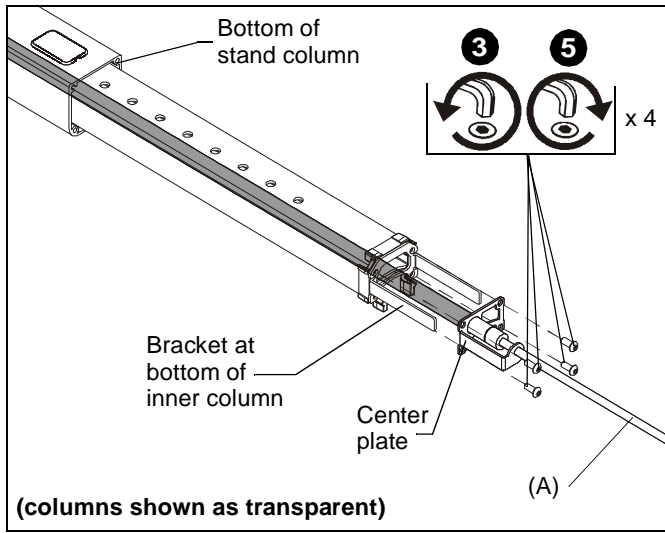

Figure 9
- Remove four button head screws from bracket at end of inner column. (See Figure 9)
- With gas spring assembly (A) inside the inner column, slide spring assembly up until the center plate rests against the bracket at bottom of inner column. (See Figure 9)
- Fasten gas spring assembly (A) through bracket at bottom of inner column to inner column, using four button head screws removed in Step 3. (See Figure 9)